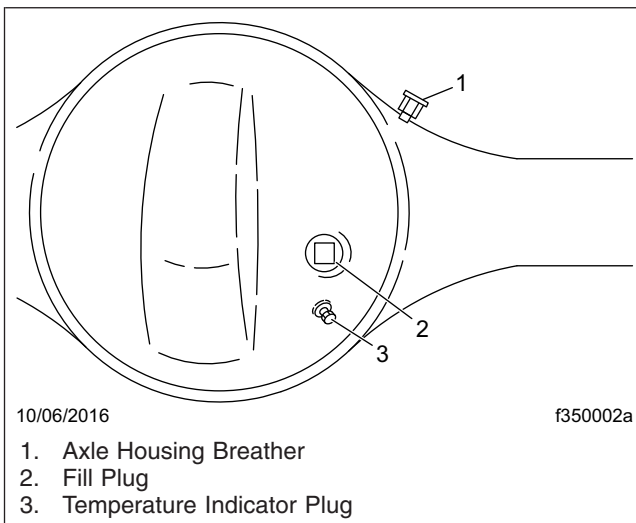

Fig. 11, Dana Spicer Axle Housing Breather
3. Clean the oil fill plug and the area surrounding it; see Fig. 11. Remove the plug from the fill hole (or standpipe, if installed in the oil fill hole).
6. Check the axle housing breather. Make sure that it is unclogged and free from corrosion. See Fig. 11. If the breather is plugged or damaged, clean or replace it as needed.